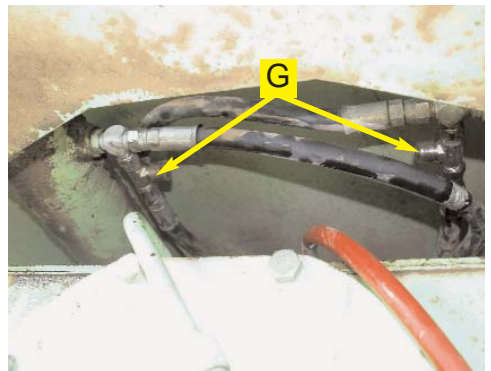

Figure 5b. Installed steering output fittings (ST models).
- b. Install the run tees (G) to the steering lines as shown. (Figure 5b. and 5c.)